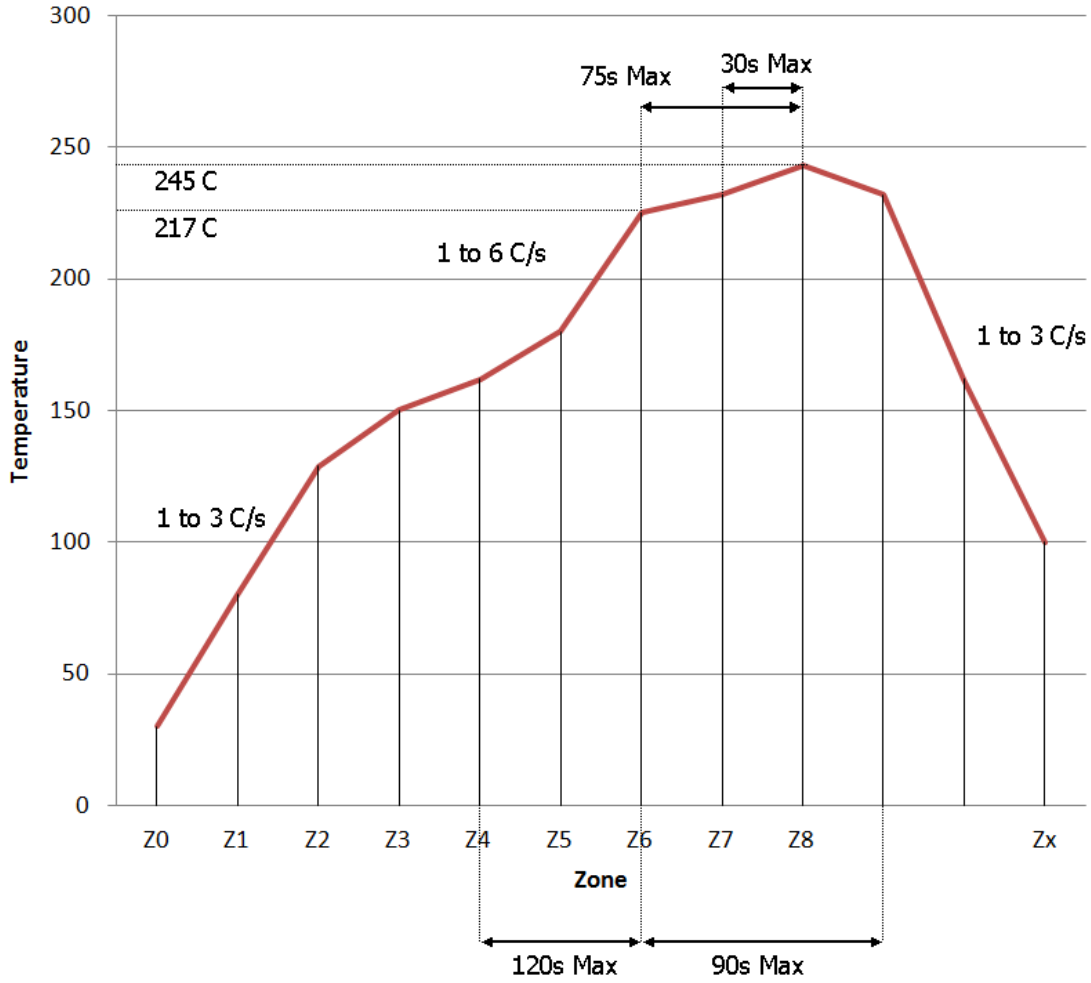

Figure 4. 48-pin LQFN soldering profile
*Figure 4* shows the recommended soldering profile for the MKW41Z 48-pin LQFN package, in a board size approximately 3.20 inches  $\times$  2.10 inches.